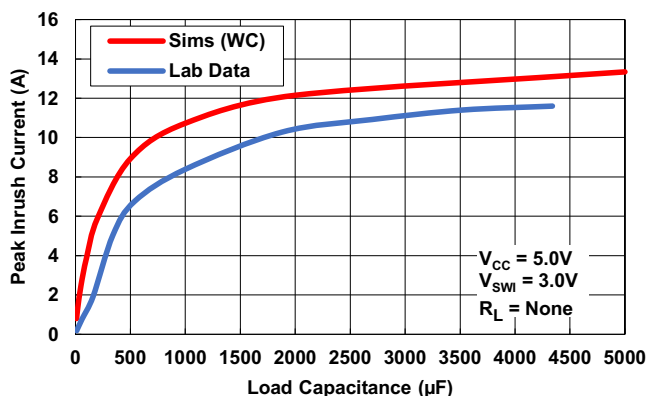
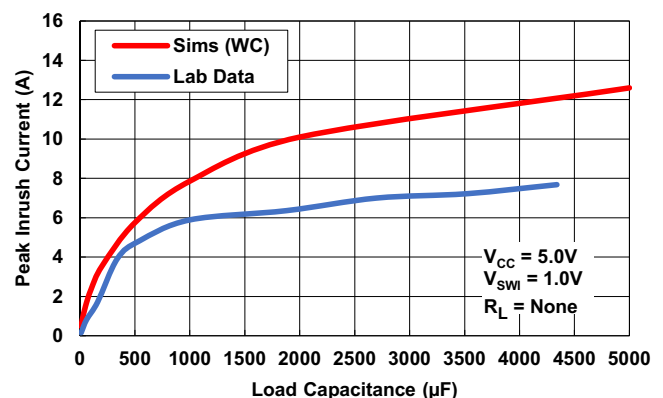

Figure 42. Peak Inrush vs Load Capacitance for  $V_{SWI} = 3.0V$
Figure 43. Peak Inrush vs Load Capacitance vs for  $V_{SWI} = 1.0V$
Figure 42 and Figure 43 show graphs of the Peak Inrush Current vs Load Capacitance for different conditions. Figure 42 is done with  $V_{CC} = 5.0V$  and  $V_{SWI}$  at 3.0V. Figure 43 is done with  $V_{CC} = 5.0V$  and  $V_{SWI}$  at 1.0V. The red trace in the graph is the inrush current worse case design simulation result (SIMS (WC)). The blue trace is the inrush current measured on parts in the lab (LAB DATA). You can use these graphs to determine if the level of inrush current for the system load capacitance is acceptable for your application.